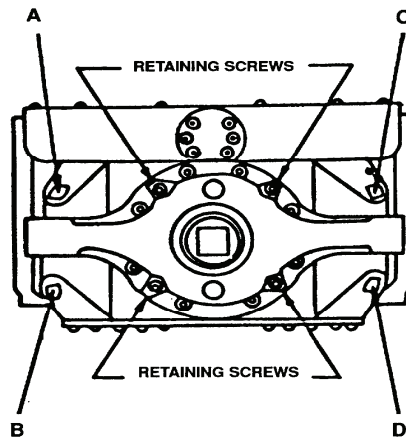
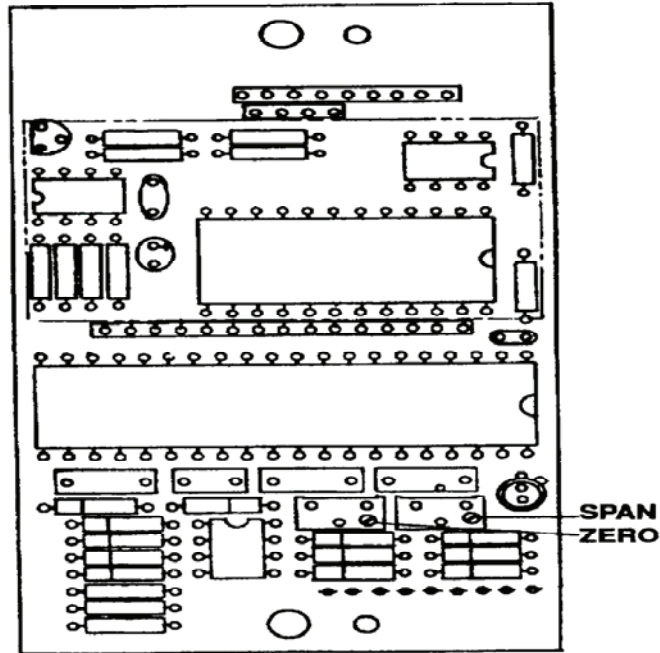
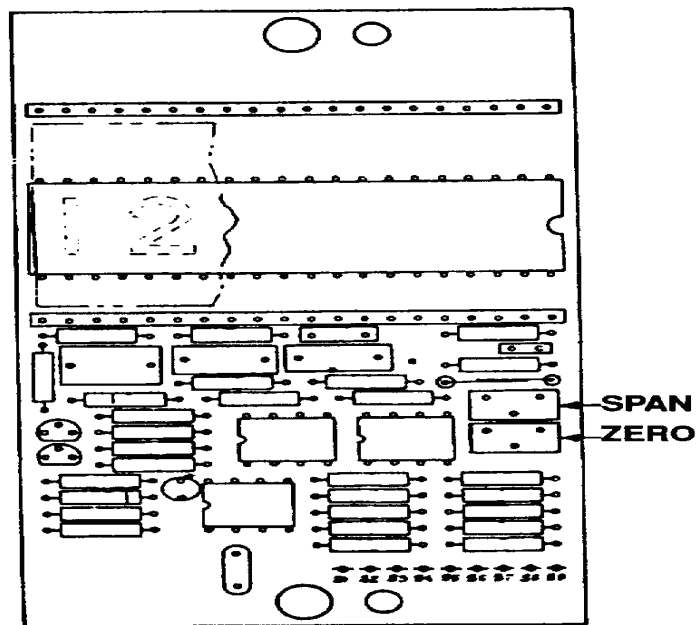

Figure 1. Torque wrench - adjustment locations.
Figure 2. Consolidated Devices, Models DPT 1200 and DPT 1200R - adjustment locations.
Figure 3. Consolidated devices, models DPT2500 and DPT-2500R - adjustment locations.
Reaction arm must be free to move under retaining screws (fig. 1).
- (1) If TI indication error is the same in both cw and ccw directions, adjust pointer of TI dial indicator.
- (2) If TI indication error is not the same in both directions, perform (3) through (10) below.
- (3) Remove sealant from the four adjustment screws A, B, C, and D (fig. 1) on the back of TI.
(4) Using appropriate size Allen wrench, back off screws A and B (fig. 1) at least three turns.
(5) Adjust screw C (fig. 1) until a pressure reading is shown on indicator, then back off screw until indication returns to 0.
(6) Check spacing between the reaction arm on sensing unit housing and reaction ears. If reaction arm is not centered between ears, adjust screws C and D (fig. 1) until sensor is centered.
(7) Turn screw A (fig. 1) inward until a pressure reading is shown on indicator and then back off to 0 plus one-quarter additional turn.
(8) Turn screw B (fig. 1) inward until a pressure reading is shown on indicator and back off to 0.
(9) Repeat **a** above and adjust screws B and C (fig. 1) slightly to bring TI indications within tolerance (R).
(10) Reseal retaining screws with silicone rubber sealer. Repeat table 4.
(11) Operate crank cw to obtain an indication of 800 ft-lbs (1200 ft-lbs for models DPT-2500 and DPT-2500R) on force/torque indicator.
(12) Adjust SPAN screw (fig. 2 and fig. 3) for an indication of 800 ft-lbs (1200 ft-lbs for models DPT-2500 and DPT-2500R) on digital display (R).
It should not be necessary to adjust internal ZERO (fig. 2 and fig. 3) unless circuit board is repaired.